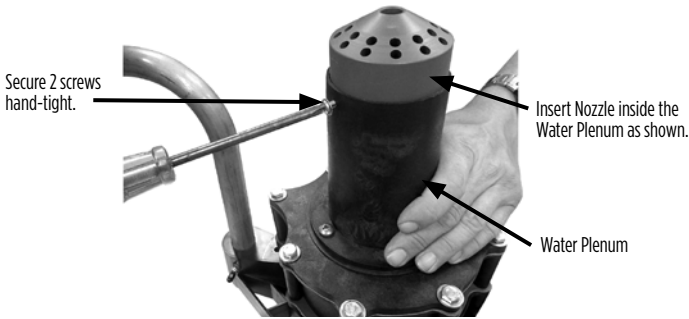

Figure 10
- Choose the nozzle with your desired fountain pattern and install inside the water plenum (Figure 10).
Step 6 Inspect, clean and remove any buildup in **Centrifugal Pump Head** (Figure 10).